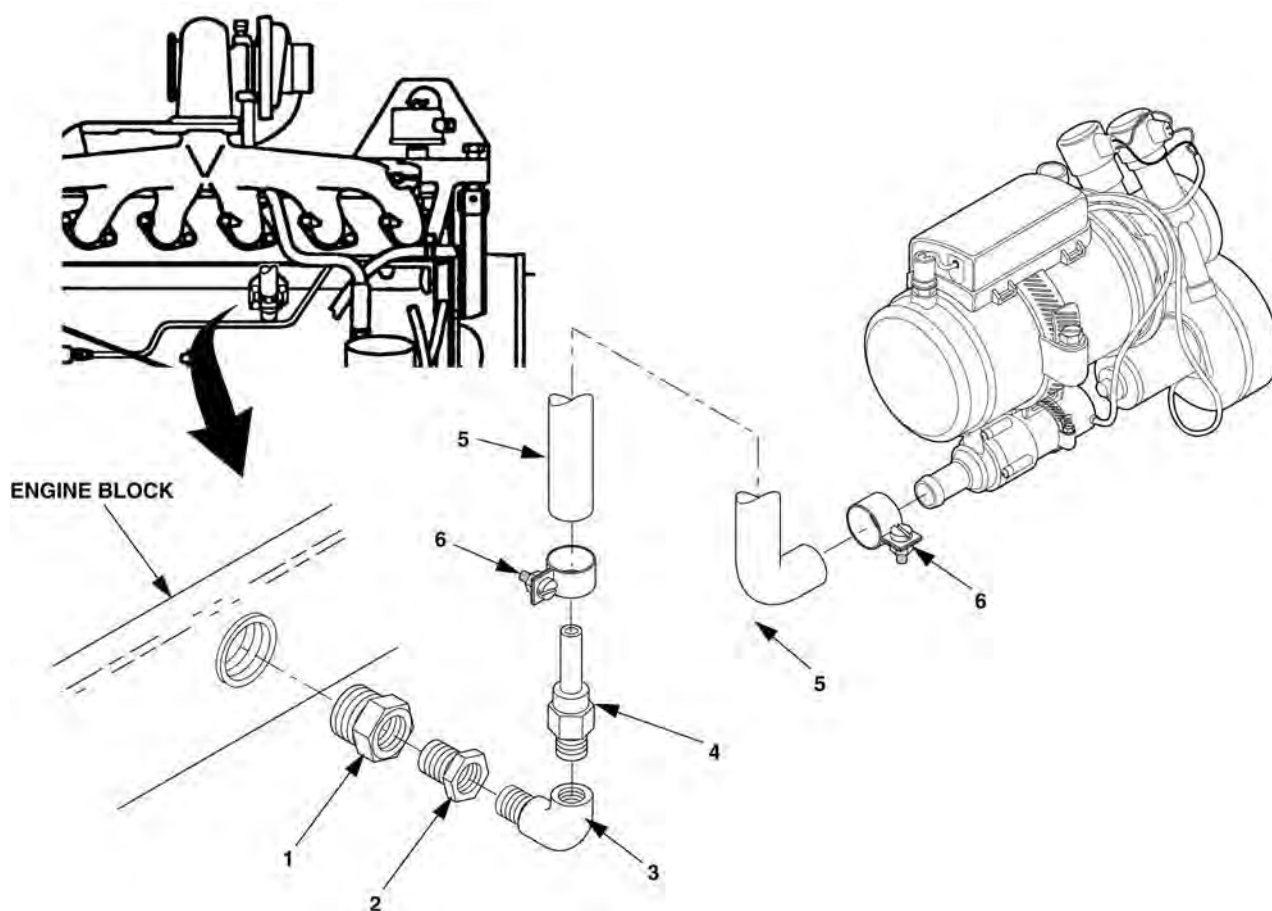

Figure 5-4. Coolant Inlet Hose Assembly.
11. Remove plug from rear of engine head (refer to engine TM 9-6115-256-24) and install adapter (1), Figure 5-4, bushing (2), elbow (3), and adapter (4).
12. Install coolant hose (5) to elbow (3) and adapter (4) and secure with clamp (6). Install the other end of the coolant hose (5) to heater coolant intake using clamp (6).
13. Install the other end of the coolant hose (5) to heater coolant intake using clamp (6).